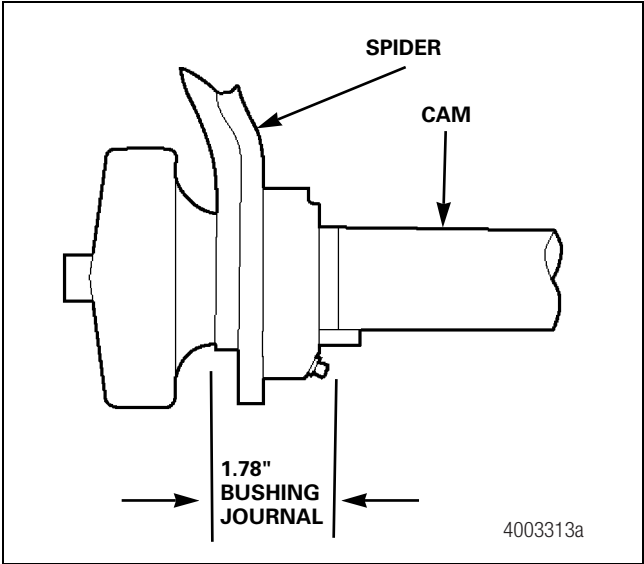

Figure 12.12
- Cams with non-heat-treated journals are used with plastic sleeve bushings. Figure 12.12.